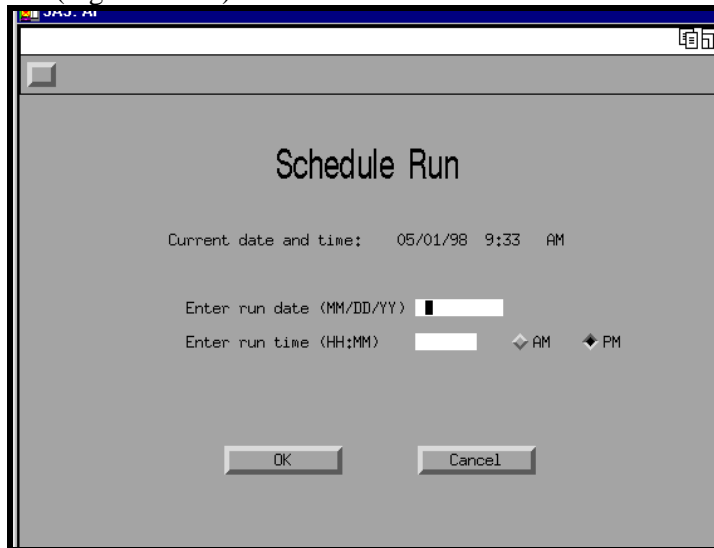

Figure 13.2.3 Schedule Run Screen
- You will be prompted to enter the date and time that you want the adjust program to run (Figure 13.2.3):